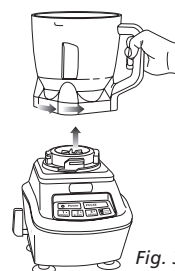

Fig. 3
- 6 To remove the lid, pull the lid handle up to a 90° angle and lift the lid off. Turn the bowl counter clockwise and then lift off the base. (Fig. 2, Fig. 3)
- 6 Once finished making dough, remove the bowl from the motor base. (Fig. 2, Fig. 3)